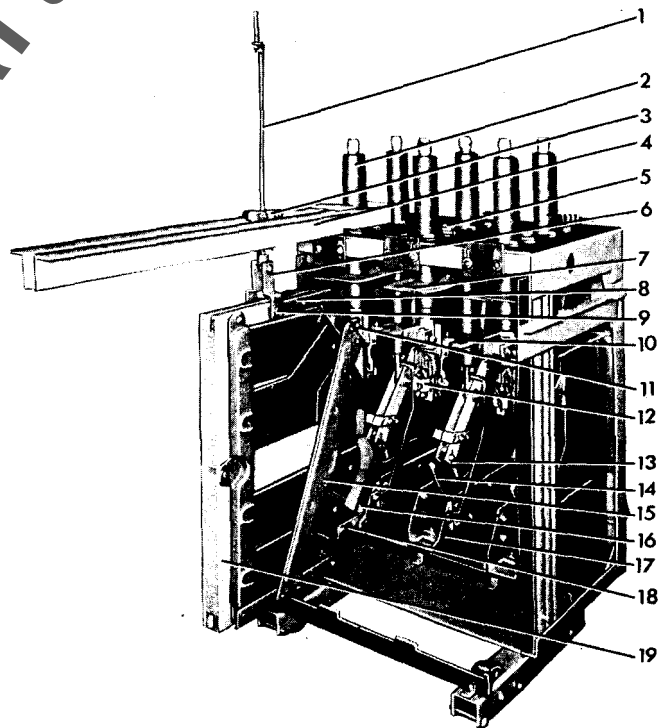

Figure 16. (8034809) Interrupter Partially Removed Showing Accessibility of Arcing Contacts
Refer to Figure 16. An arc chute lifter is normally furnished with the metal-clad switchgear for use in removing and replacing the interrupters of the AM-13.8-500 breakers. When the lifter is not available an overhead crane or portable hoist may be used. The arc chute lifter is assembled to the top plate of the breaker as shown in the reference figure using the bolt (5) located between the front and rear bushings. Before assembling the lifter on the breaker it is necessary to remove the box barrier.
Tighten the supporting bolts (11) and (16) Figure 16. These bolts serve as both the electrical and mechanical connections between the bushings and the arc runners within the interrupter. Check that the movable arcing contact (14) passes between the probes on the upper arc runner (4) Figure 20 without touching.